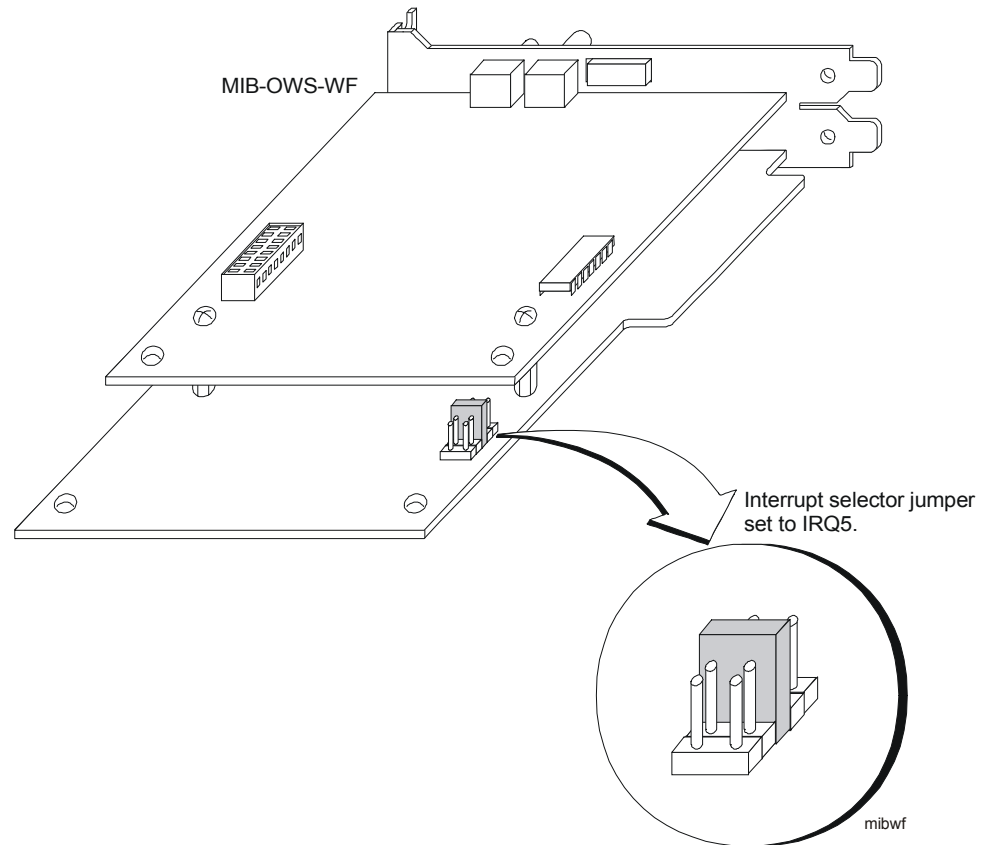

Figure 6: Media Interface Board Jumper
3. Set the interrupt selector jumper to IRQ5 (Figure 6).